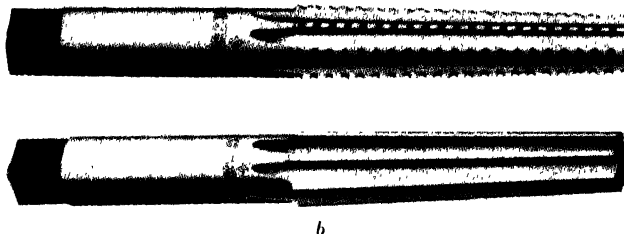

**Fig. 9-7.** Expansion hand reamer, spiral flute. (*The Cleveland Twist Drill Company*)
*The Expansion Reamer.* The body of the expansion reamer (Fig. 9-7) is bored slightly taper and slitted to permit a slight expansion (about 0.005 in. in a 1-in. hand reamer and proportional amounts in other sizes  $\frac{1}{4}$  in. and over). A tapered plug, threaded through the end (guide) and squared for a wrench, is the expander. This reamer is not meant for an oversize reamer, or for an adjustable reamer; it is meant to give longer life to a reamer for finishing standard-size holes.